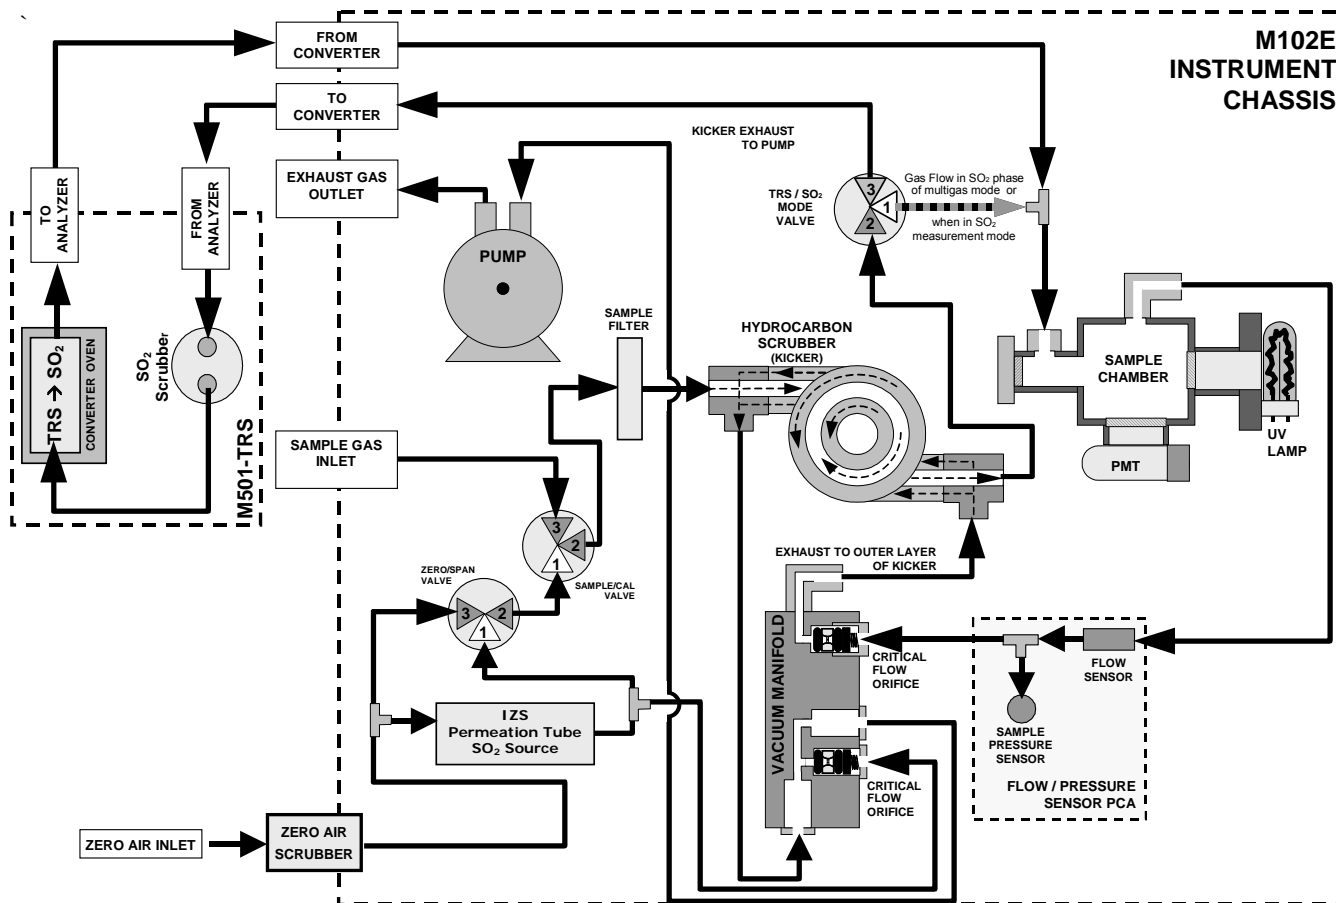

Figure 4-2: Internal Pneumatic Diagram of the M102E with IZS Options Installed.
- Figure 4-2 for an illustration of the M102E internal gas flow with the IZS valve (option 1).